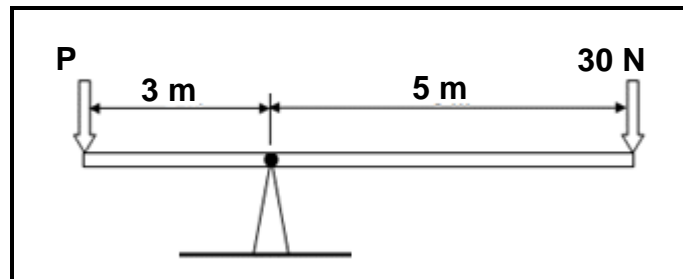

FIGURE 4.5
- D adjust a stock. (1)
- 4.5 What is the magnitude of force **P** in FIGURE 4.5 to keep the system in equilibrium?